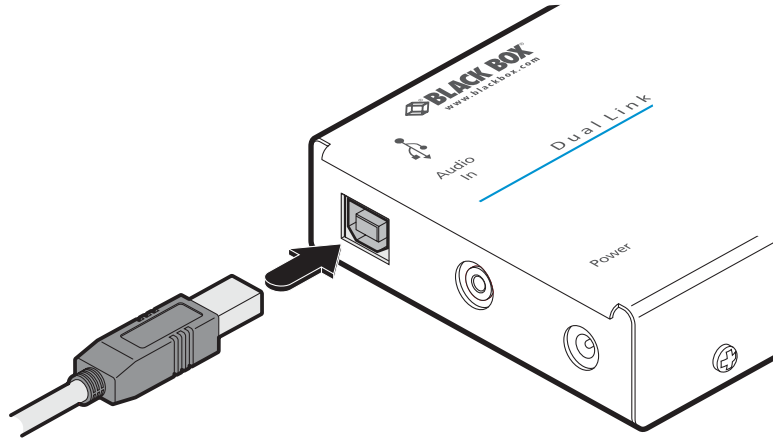

Figure 3-4. Attaching the USB link cable
- 1 Use the supplied USB cable to link the USB socket of the local module to a vacant USB socket on the computer as shown in Figure 3-4: